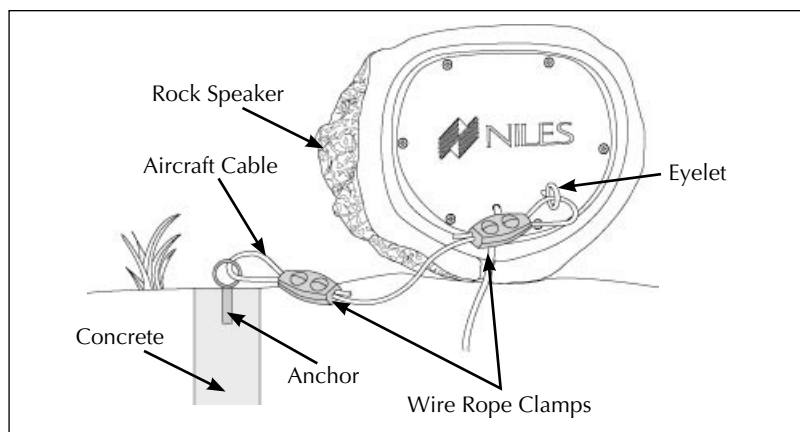

Figure 14 Upgraded Security Attachment
8. Loop this end of the aircraft cable around the eyelet and back to the aircraft cable. Secure this end of the cable to the main aircraft cable with the wire rope clamp. The upgraded attachment should now look like **Figure 14**.